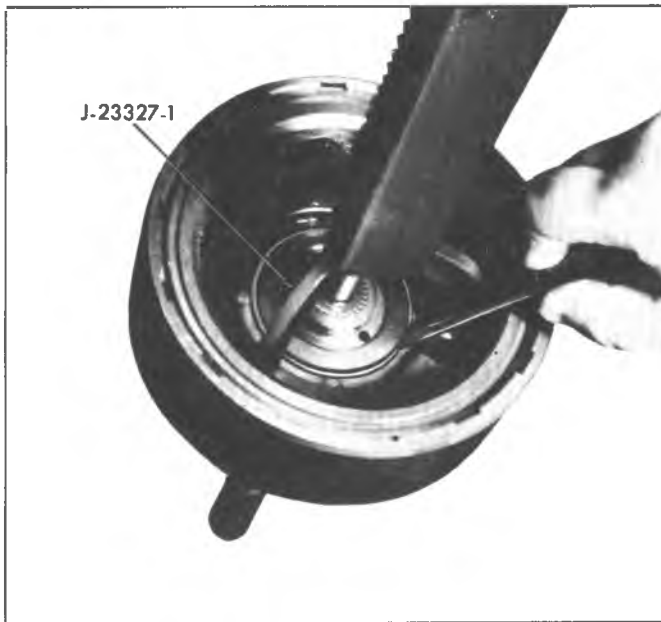

Fig. 80M--Compressing Forward Clutch Piston Return Seat
3. Using tool J-23327, compress piston return seat and remove retaining ring (fig. 80M).
4. Remove piston return seat and twenty-one (21) clutch return springs.
3. Install twenty-one (21) clutch return coil springs.
4. Install spring retainer. Compress spring retainer and install retaining ring using tool J-23327-1 as shown on Figure 80M.